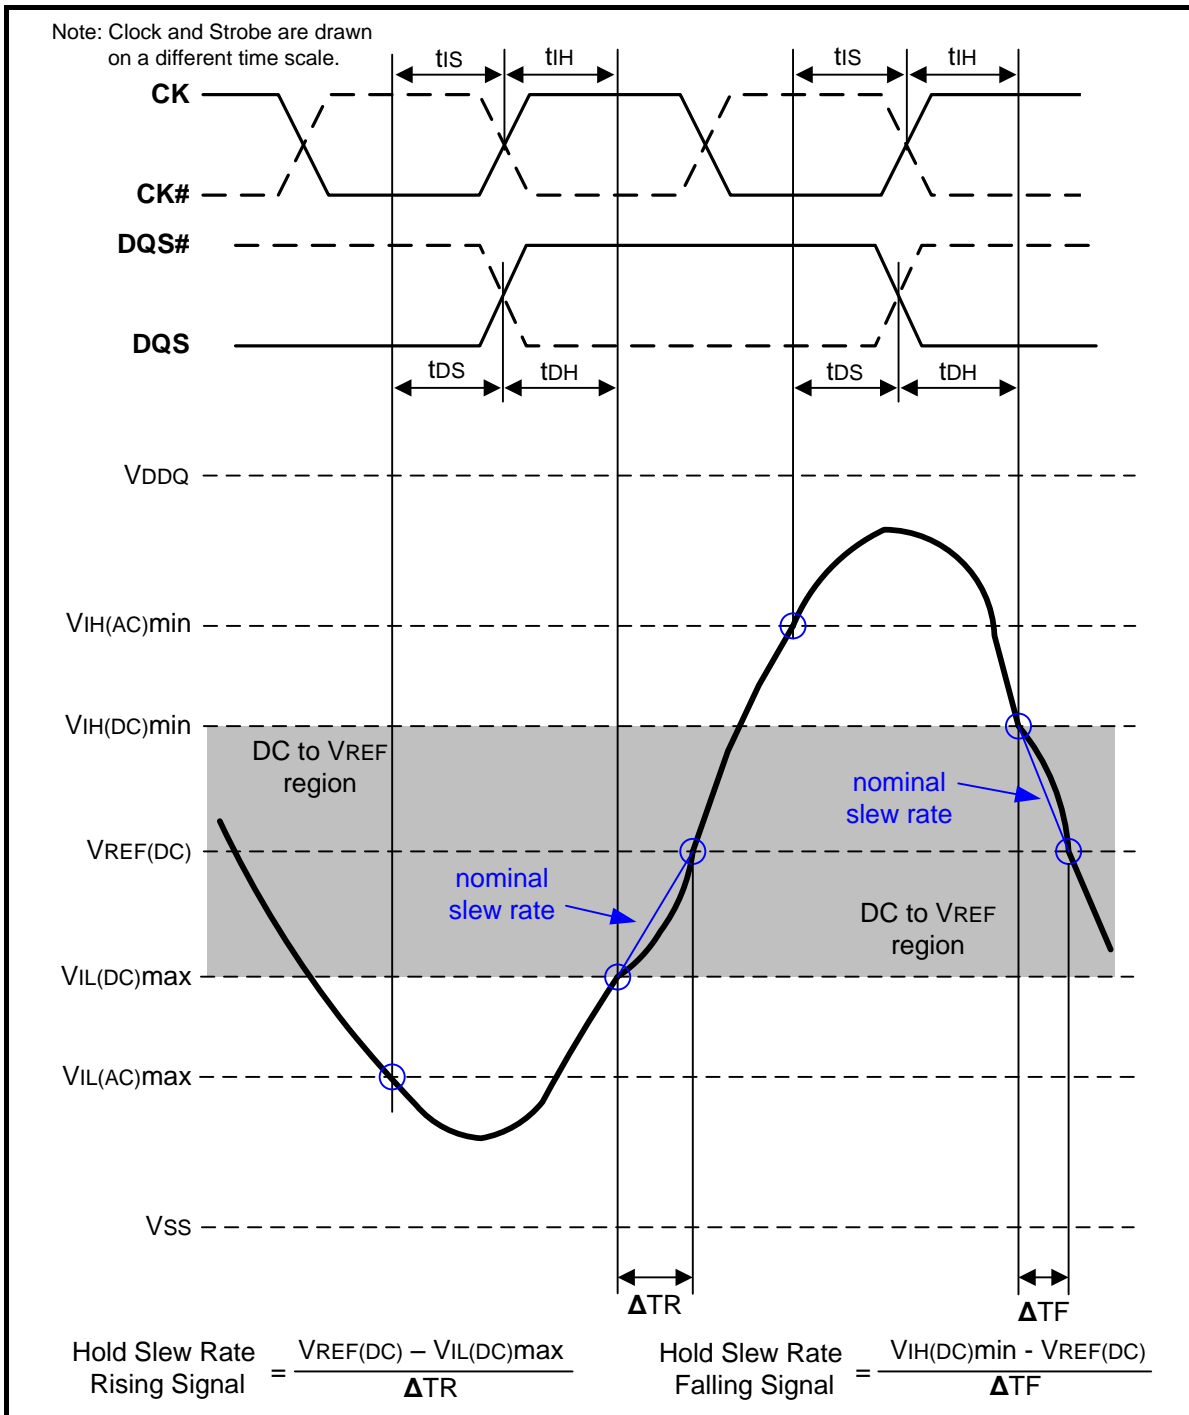
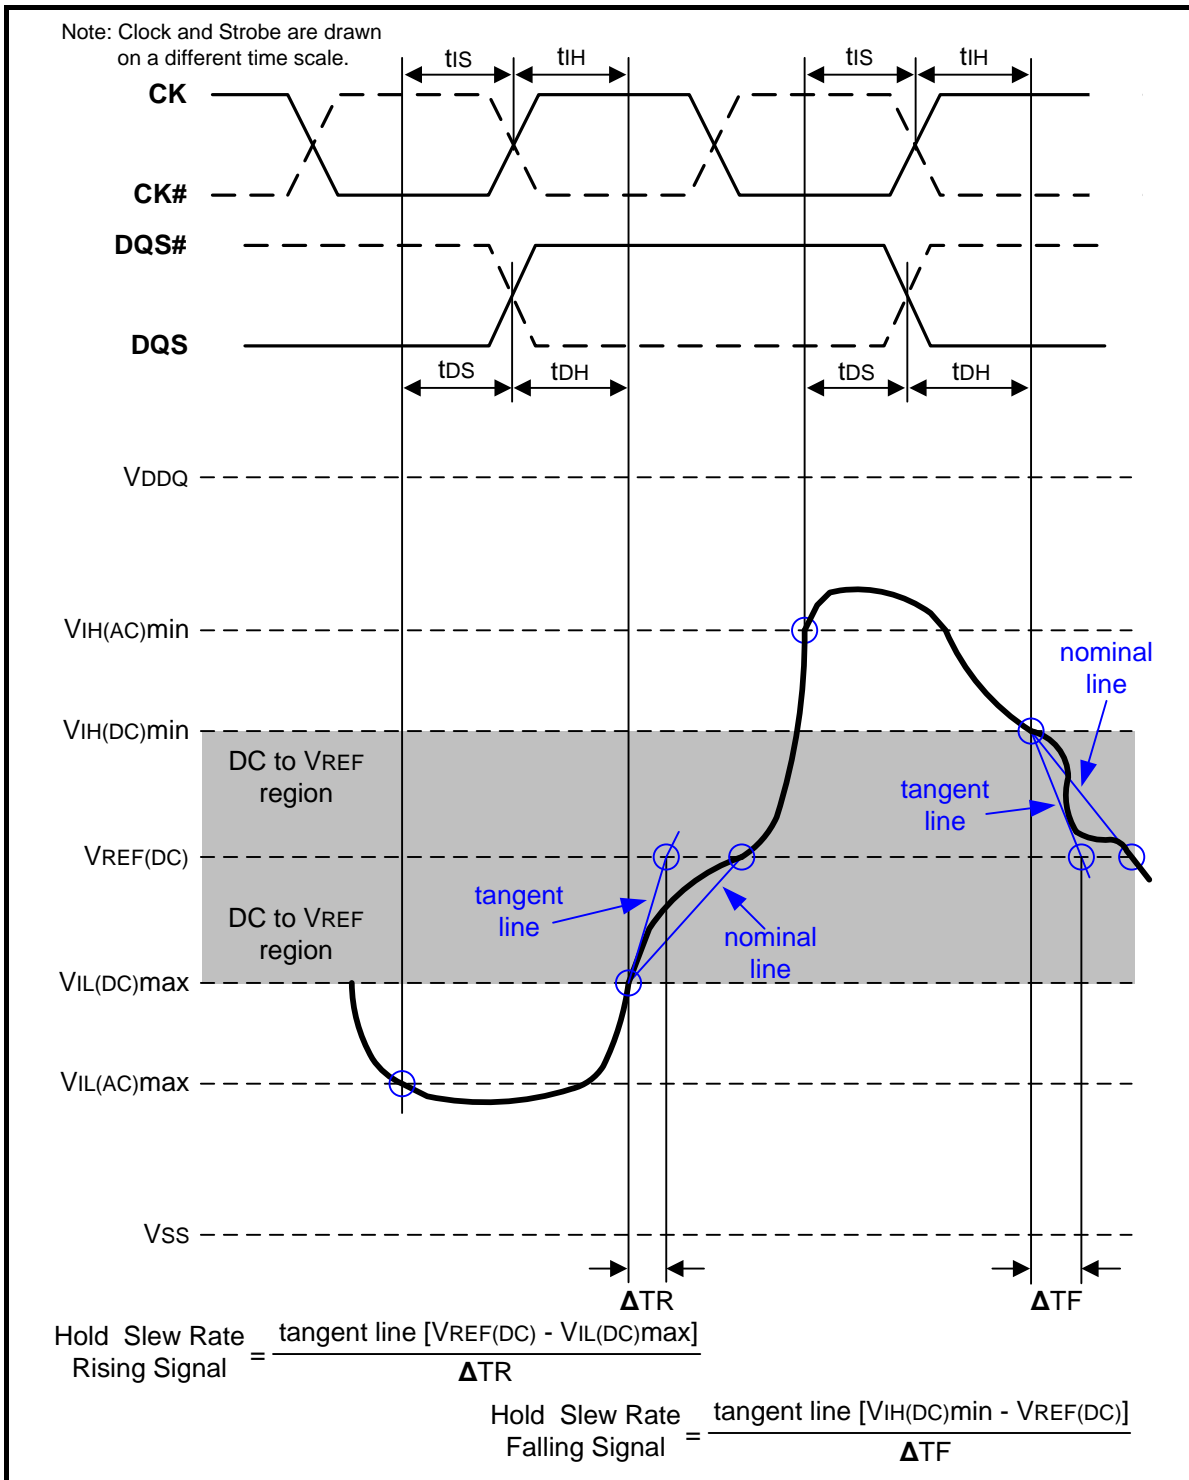

Figure 108 – Illustration of nominal slew rate for hold time t_{DH} (for DQ with respect to strobe) and t_{IH} (for ADD/CMD with respect to clock)
Figure 110 – Illustration of tangent line for for hold time tDH (for DQ with respect to strobe) and tIH (for ADD/CMD with respect to clock)
Hold (t_{IH}) nominal slew rate for a rising signal is defined as the slew rate between the last crossing of $V_{IL(DC)max}$ and the first crossing of $V_{REF(DC)}$. Hold (t_{IH}) nominal slew rate for a falling signal is defined as the slew rate between the last crossing of $V_{IH(DC)min}$ and the first crossing of $V_{REF(DC)}$. If the actual signal is always later than the nominal slew rate line between shaded 'DC to VREF(DC) region', use nominal slew rate for derating value (see Figure 108). If the actual signal is earlier than the nominal slew rate line anywhere between shaded 'DC to VREF(DC) region', the slew rate of a tangent line to the actual signal from the DC level to $V_{REF(DC)}$ level is used for derating value (see Figure 110).
Hold (tDH) nominal slew rate for a rising signal is defined as the slew rate between the last crossing of VIL(DC)max and the first crossing of VREF(DC). Hold (tDH) nominal slew rate for a falling signal is defined as the slew rate between the last crossing of VIH(DC)min and the first crossing of VREF(DC) (see Figure 108). If the actual signal is always later than the nominal slew rate line between shaded 'DC level to VREF(DC) region', use nominal slew rate for derating value. If the actual signal is earlier than the nominal slew rate line anywhere between shaded 'DC to VREF(DC) region', the slew rate of a tangent line to the actual signal from the DC level to VREF(DC) level is used for derating value (see Figure 110).